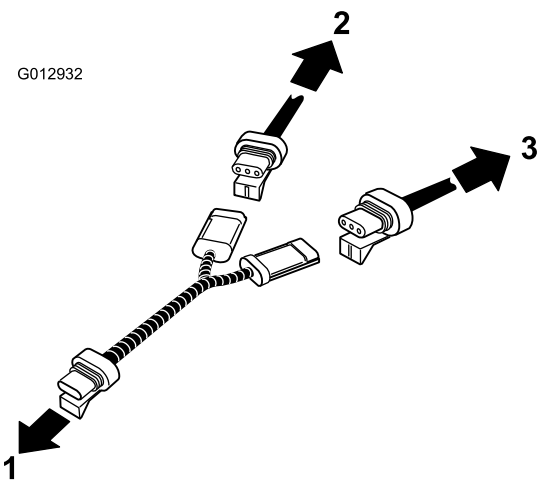

Figure 14
17. Install the Y-shaped, speedometer jumper harness between the speed sensor and the existing and spray wiring harnesses. Connect the speed sensor to both the existing wire harness and the spray system wire harness (Figure 14).